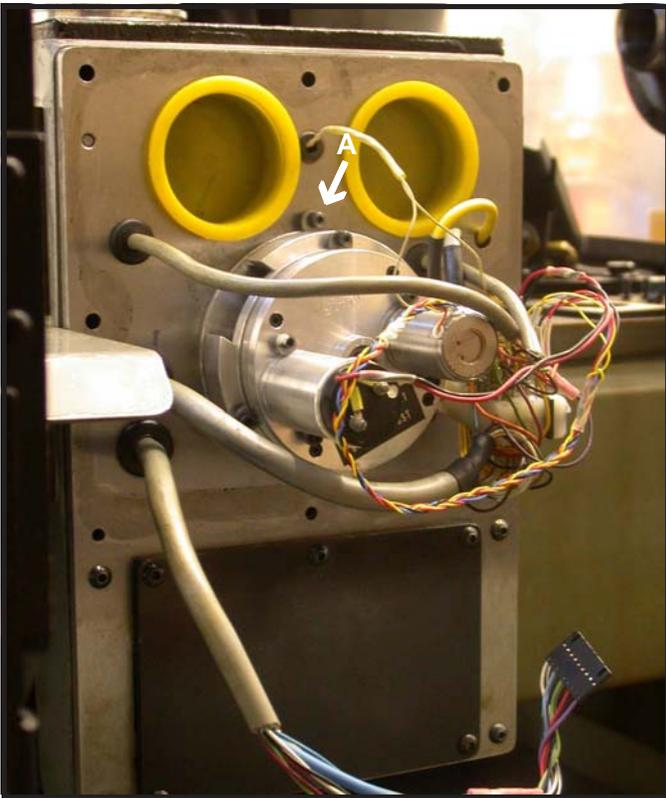

Figure 4.1.6
After the (2) set screws in the coupler have been loosened the X axis feedback unit can be removed by loosening the (3) cam lock screws (Figure 4.1.6 A).